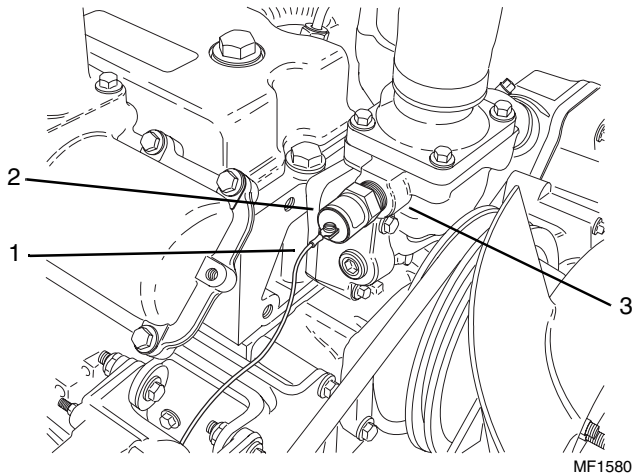

Figure 10-60 Engine Water Temperature Wiring
29. Disconnect light blue wire #8 (Fig. 10-60, 1) from the water temperature switch (2), and remove the temperature switch (2) from the housing (3).